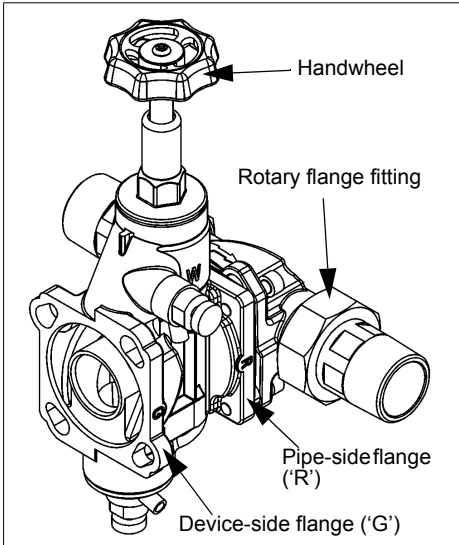

Fig. 7: Bypass valve (JQX)
- Connect the bypass valve with the rotary flange fitting, by engaging the bayonet, on the flange side with the cast-in letter "R" (R=Rohr [pipe]) (see fig. 7).